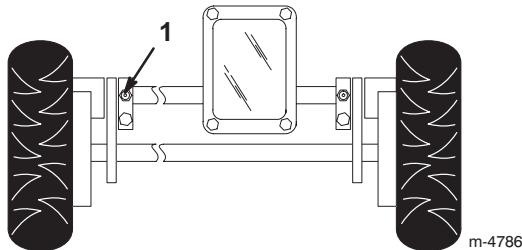

Figure 22
- Wipe the grease fittings with a clean rag (Fig. 22).